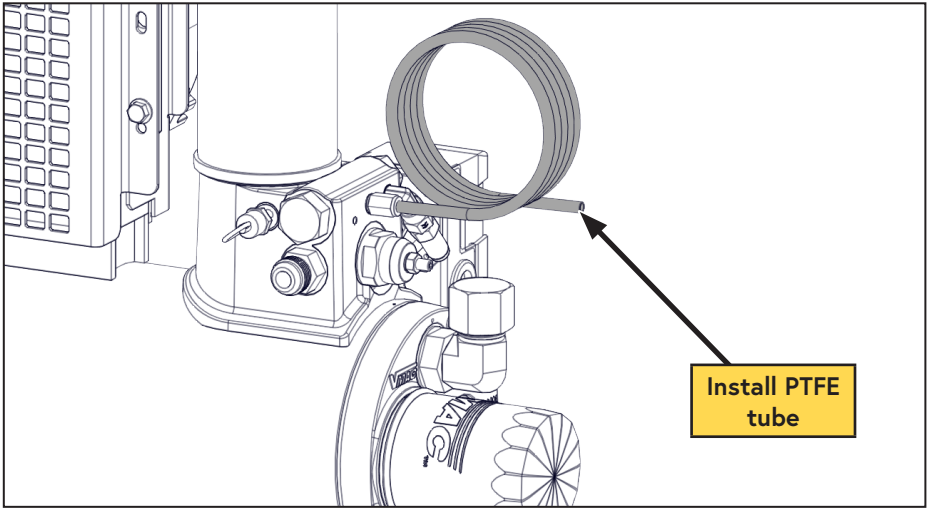

Figure 48 — Tubing Installation
- Connect the 1/4 in PTFE tube into the push-to-connect fitting installed in the WHASP Tank (Figure 48).